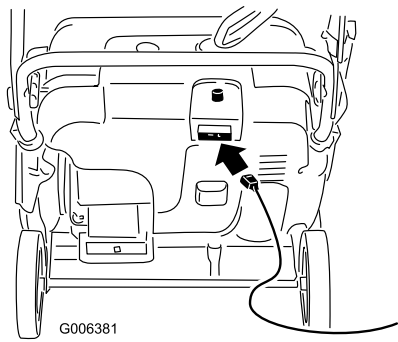
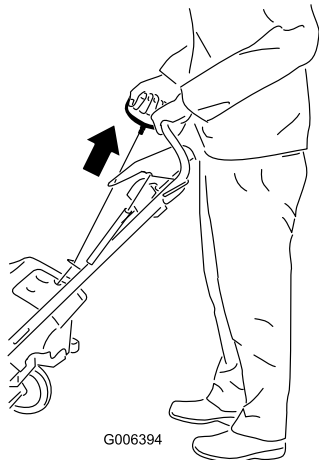

Figure 15
Figure 16
4. Connect an extension cord to a power source and the snowthrower, and push the electric-start button (model 38589 only) (Figure 15), or pull the recoil start handle (Figure 16).